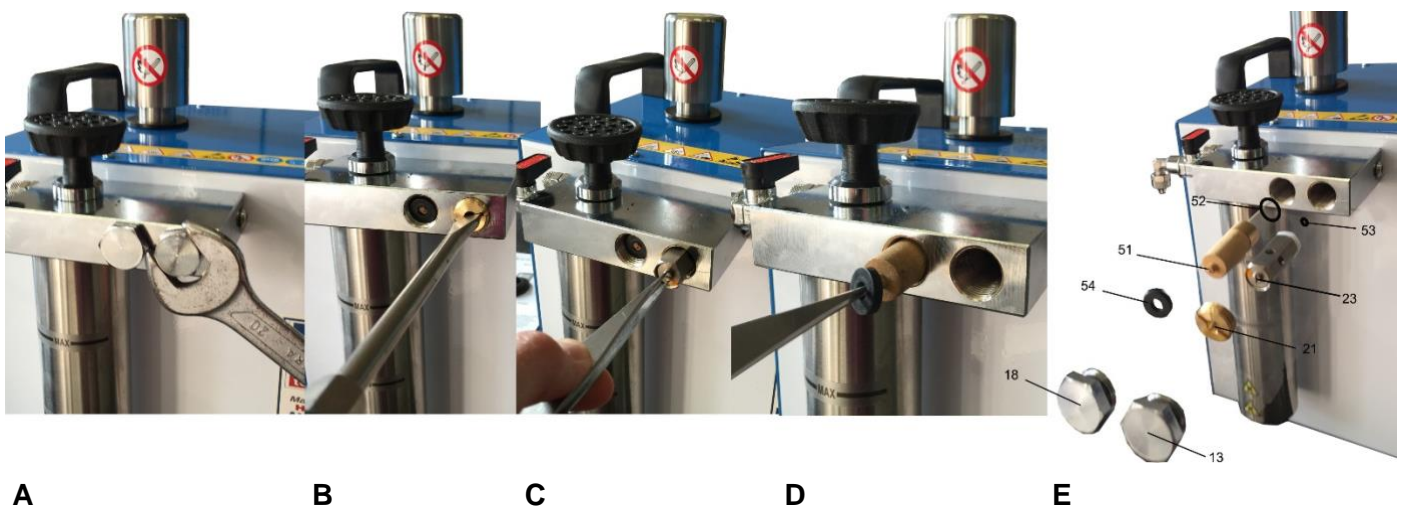

FIG 4 – CHECK VALVE AND BACK FLAME FILTER REPLACEMENT
- 2) Unscrew the check valve cap (Fig. 4; A # 18).
- 3) Unscrew the threaded disk (Fig. 4; B # 21).
- 4) Remove the valve and relevant "O-ring" from the seat (Fig. 4; C # 23, 53).
- 5) Install the new valve (Fig.4; # 23).